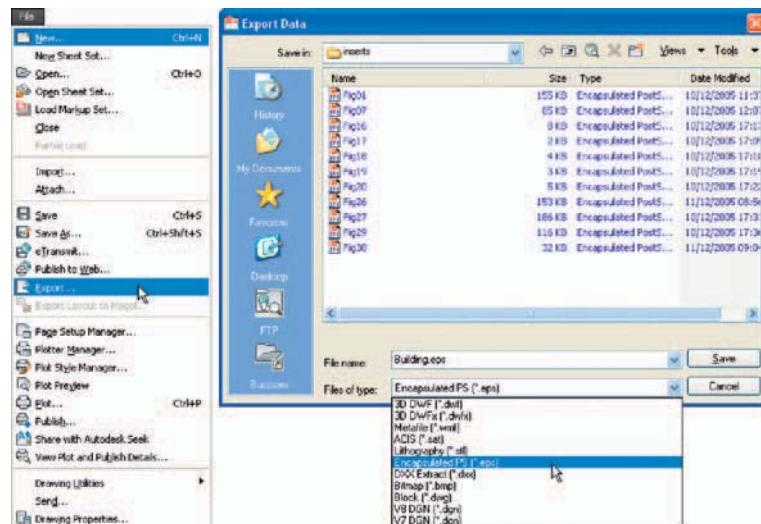

Fig. 10.3 Selecting the **Export** tool icon from the **File** drop-down menu and the **Export Data** dialog
- With the same drawing on screen click on **Export...** in the **File** drop-down menu (Fig. 10.3). The **Export Data** dialog appears (Fig. 10.3). Pick **Encapsulated PS (*.eps)** from the **Files of type** pop-up list then enter a suitable file name (e.g. **building.eps**) in the **File name** field and click the **Save** button.